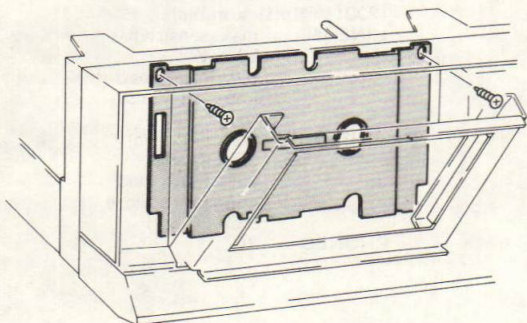

Fig. 3
- 2) Remove 2 screws to take off cassette plate. (See figure 3)